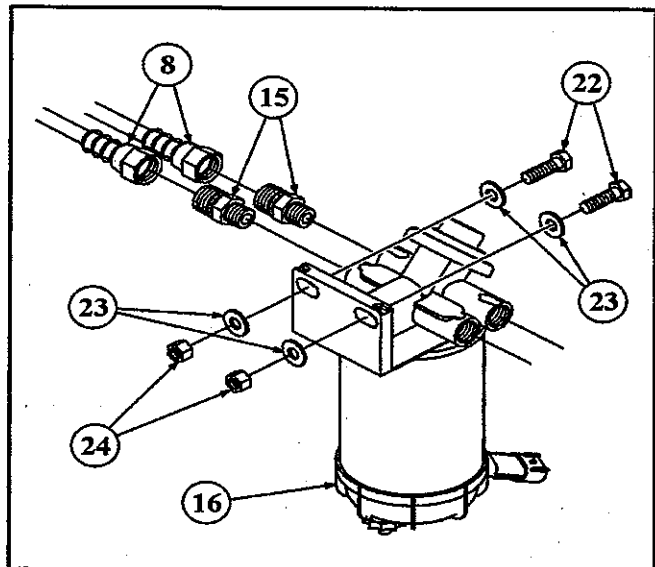
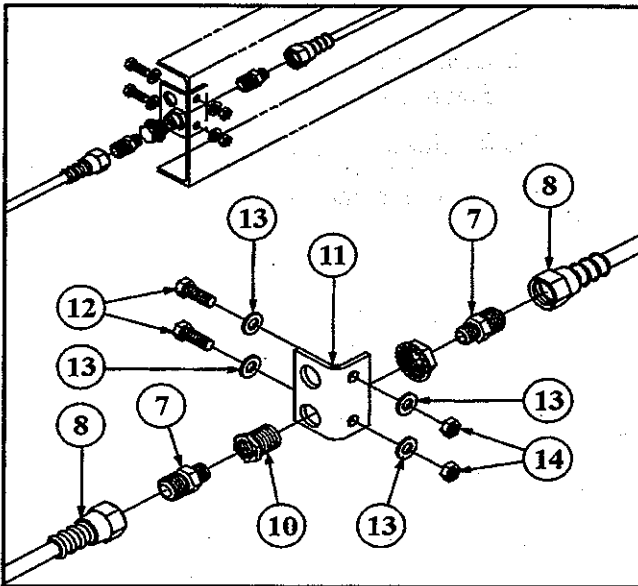

Figure 1—Racor 490R-12-10 Fuel Filter/Water Separator
Figure 2—Fuel/Air Mounting Junction
1. Disconnect the female swivel (8) from the male connector (15). (See Figure 1—Racor 490R-12-10 Filter/Water Separator.)
2. Remove the nut (24), flat washer (23) and capscrew (22).
4. Remove the Filter/Water Separator (16).
5. Disconnect the female swivel (8) from the male connector (7) at the fuel and air mounting junction (11). (See Figure 2—Fuel/Air Mounting Junction.)